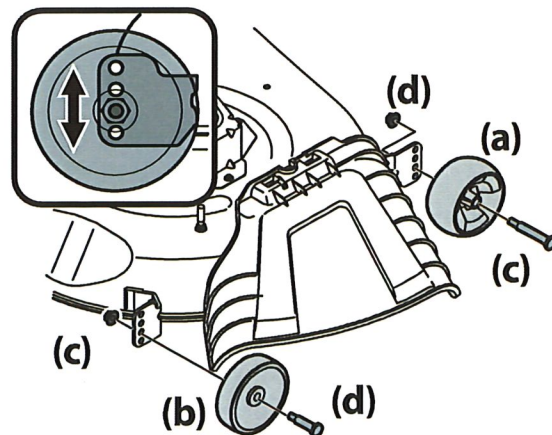

Figure 10
- b. Remove the front (a) and rear (b) deck wheels by removing the flange lock nuts (c) and shoulder bolts (d) that secure them to the deck. See Figure 10.